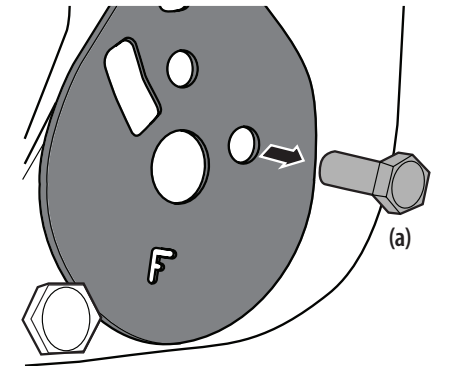

Figure 10
5. Remove the screw (a) securing the recliner plate in the seat back position. See Figure 10.